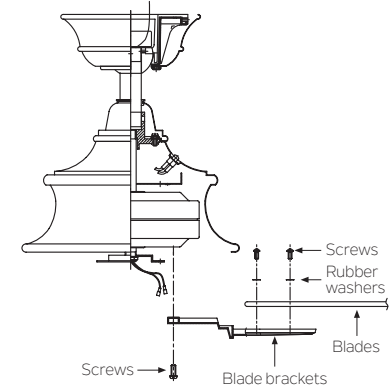

Fig. 16
**Step 1.** Attach a blade to a blade bracket using the screws and rubber washers provided. (Fig.16)
**Step 2.** Attach each blade assembly to the motor using the “Pre-Installed” mounting screws in the blade bracket. (Fig 16)